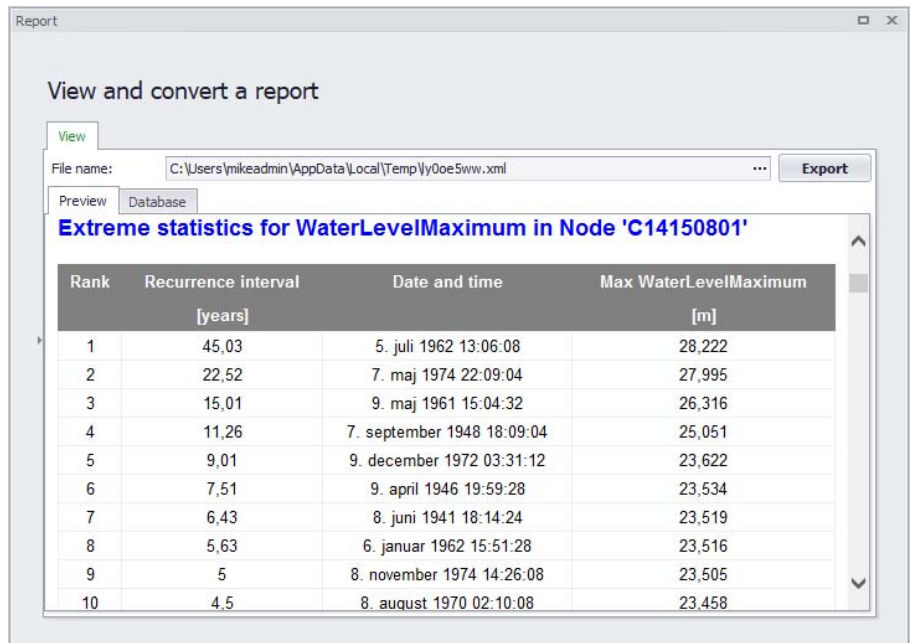

Figure 20.71 Example detailed LTS extreme event statistics report
- Click on the ‘OK’ button to create a new Detailed LTS Extreme Event Statistics report. An example is shown in Figure 20.71.